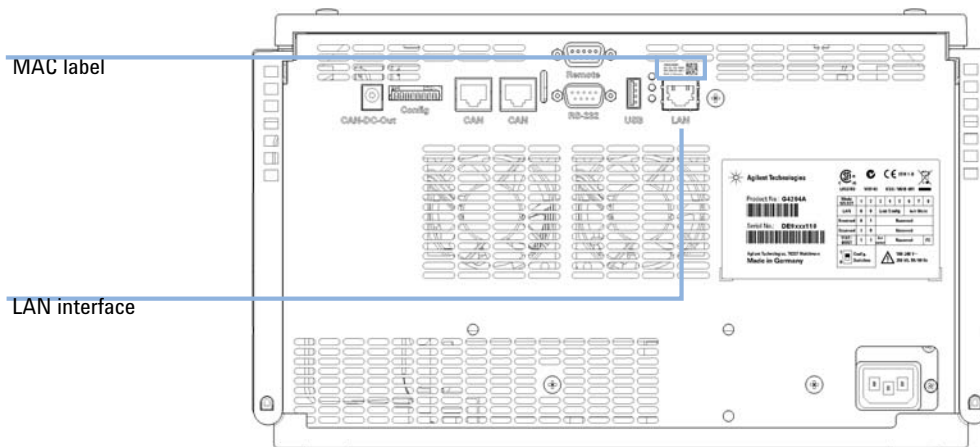

Figure 37 Location of LAN interfaces and MAC label
- 1 Note the MAC (Media Access Control) address for further reference. The MAC or hardware address of the LAN interfaces is a world wide unique identifier. No other network device will have the same hardware address. The MAC address can be found on a label at the rear of the module underneath the configuration switch (see Figure 37 on page 260).
- 2 Connect the instrument's LAN interface (see Figure 37 on page 260) to